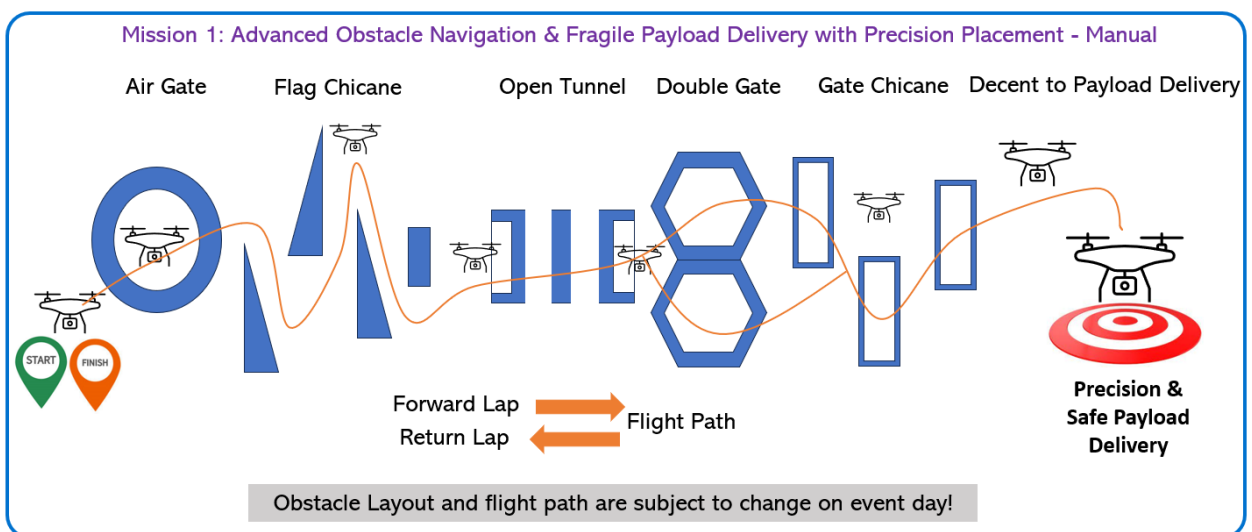

Figure 2 - Flight Mission 1 – Manual Mission Profile
- **Field Conditions:** Actual conditions may vary slightly from those depicted in Figure 2.